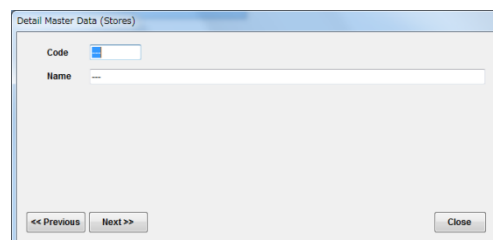

Fig.14-4 Detail Master Data Screen
- (4) It is not possible to modify the data.
- (5) Click on the item, then “Detail Master Data” Screen (Fig.14-4) is displayed.
- (6) Select [Close] to return to “Menu Screen”